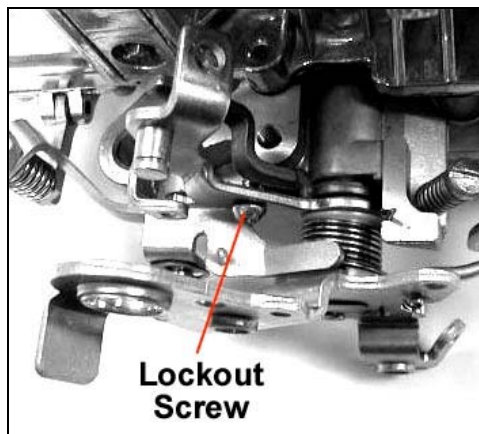

Figure 4—Ford applications
- Remove the lock out screw from the kickdown lever (Figure 4).